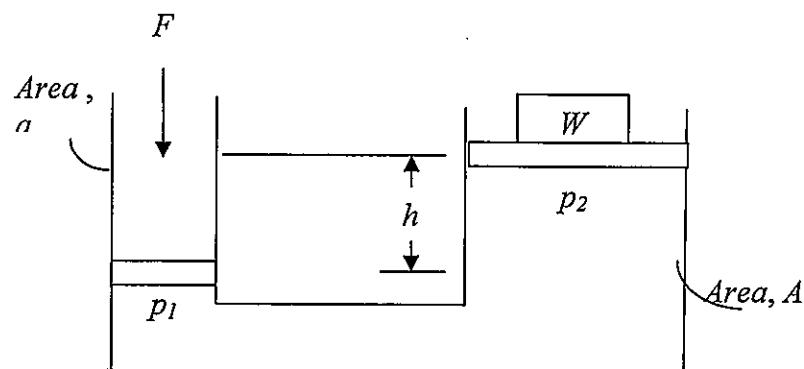

Figure 4/ Rajah 4
- d) A force, F of 850 N is applied to the smaller cylinder of a hydraulic jack in **Figure 4**. The diameter of a small cylinder is 2.5 cm while the area, A of a larger cylinder is 80 cm^2 . What load can be lifted on the larger cylinder if the small cylinder is 0.5 m below the larger cylinder? Assume $\rho = 1000 \text{ kg/m}^3$.